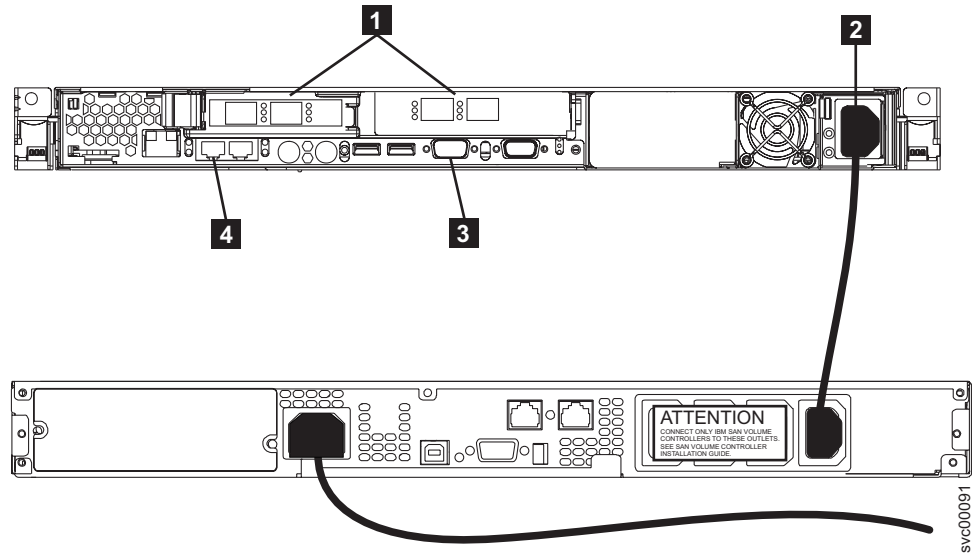

Figure 3. Power cable and signal sockets for the SAN Volume Controller 2145-8F2 and 2145 UPS-1U
2. Ensure that the power cable **2** is plugged into the load segment receptacle of the 2145 UPS-1U. Also, ensure that the other end of the 2145 UPS-1U's power cable is connected from the 2145 UPS-1U to the distribution point in the rack. Figure 3 on page xxv shows the connectors for the SAN Volume Controller 2145-8F2 and the 2145 UPS-1U.